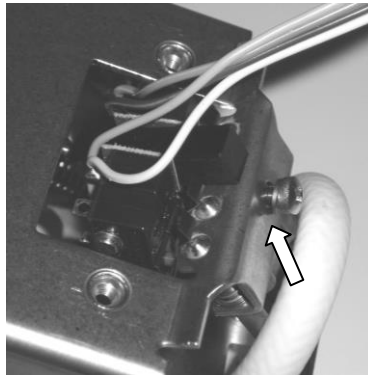

Figure 13 – New Shunt Switch Assembly Positioning
- 4.16 With the shunt door still open, slide the new shunt switch assembly (P/N M42408) into the shunt box structure using the noted orientation during removal. Install the original screw and lock washer but do not tighten the screw. Leave the screw loose as shown with the arrow in Figure 13 so the switch can move around during the installation of the switch cover.